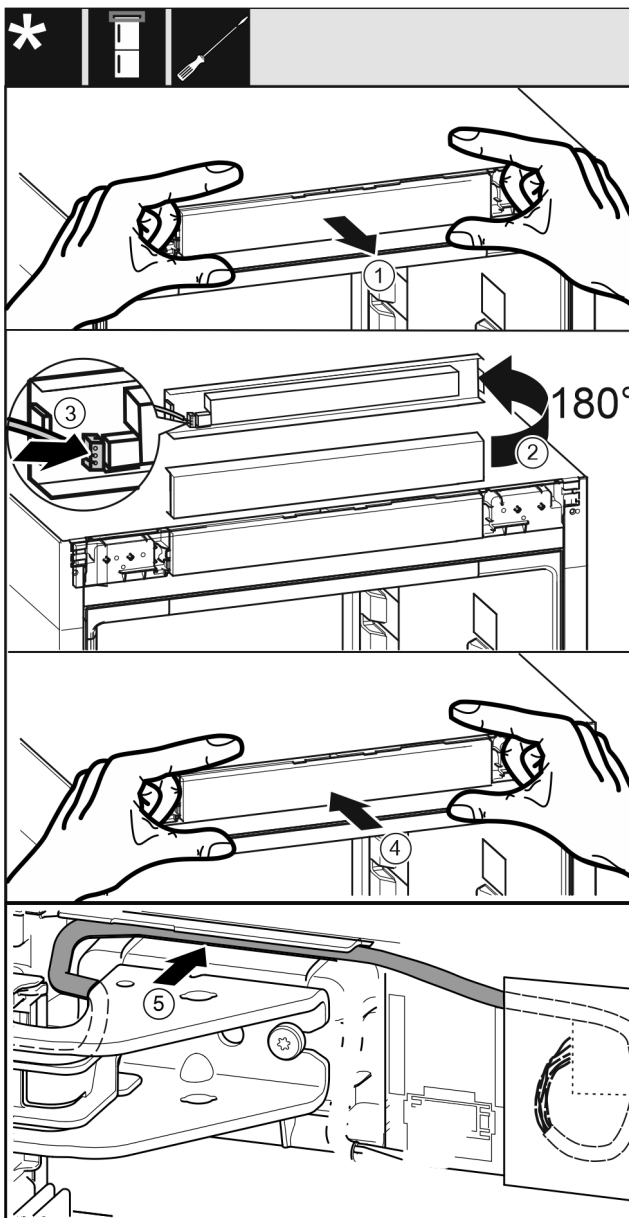

Fig. 40
- ▶ Remove the control panel trim Fig. 40 (1) carefully.
- ▶ Turn the control panel trim Fig. 40 (2) up by 180°.
- ▶ Engage the plug Fig. 40 (3) on the control panel trim.
- ▶ Re-engage the control panel trim Fig. 40 (4) on the appliance.
- ▶ Lay the cable Fig. 40 (5) carefully in the guide above the top swap bearing block.